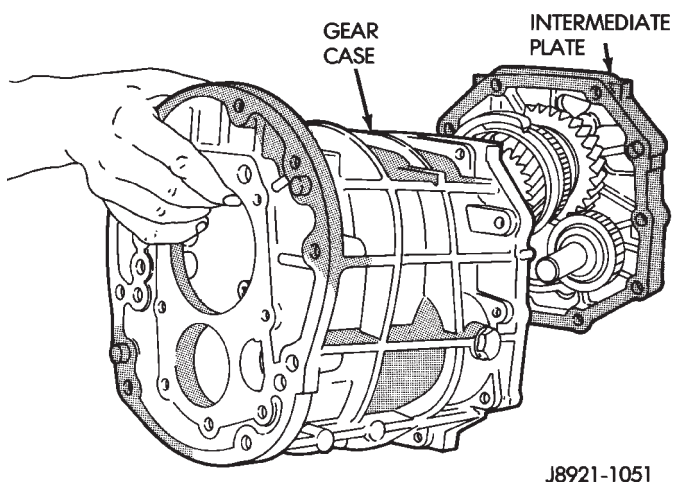

Fig. 21 Gear Case Removal
(6) Remove gear case from geartrain and intermediate plate (Fig. 21).